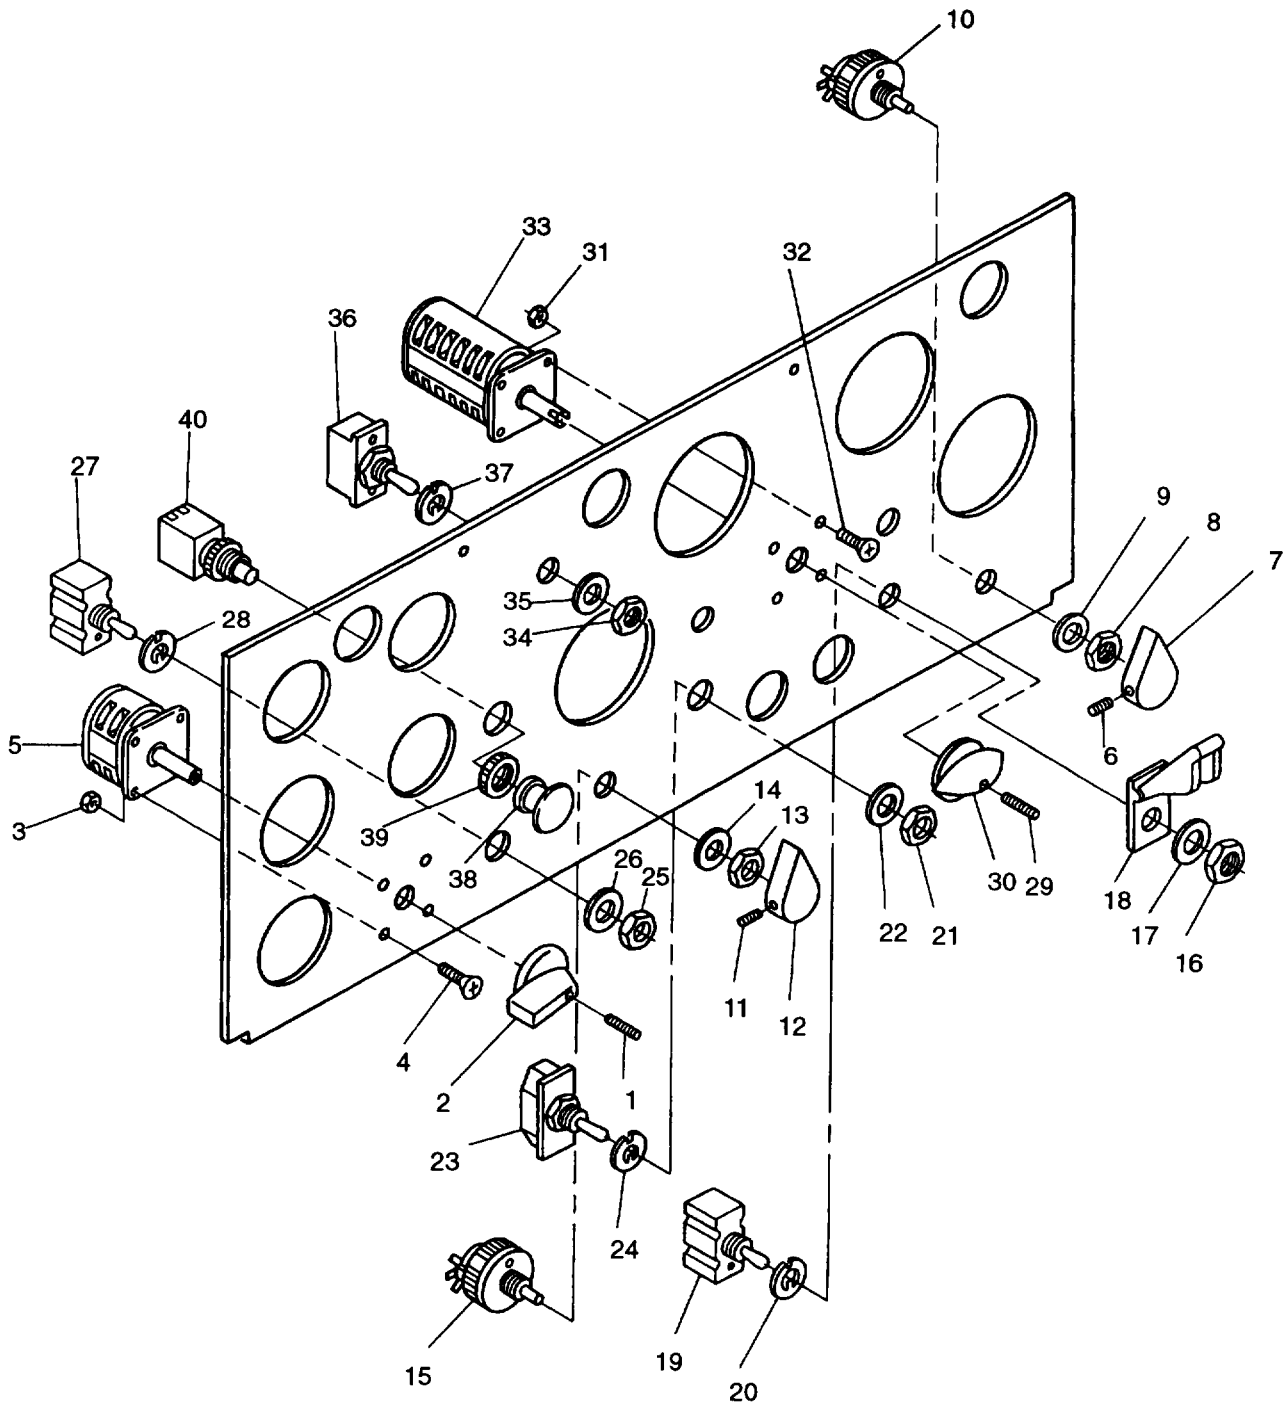

FIGURE 2-13. Control Panel Switches
- d. Tag and disconnect VOLTAGE adjust potentiometer (10, FIGURE 2-13) rheostat electrical leads using soldering gun. Remove shrinkable tubing
- e. Remove set screws (6) and knob (7).
- f. Remove nut (8) and washer (9).
- g. Remove VOLTAGE adjust potentiometer (10) from control panel.
- a. Insert VOLTAGE adjust potentiometer (10, FIGURE 2-13) into control panel.
- b. install washer (9) and nut (8).
- c. Install knob (7) and set screws (6).
- d. Tag and disconnect FREQUENCY adjust potentiometer (15, FIGURE 2-13) electrical leads using soldering gun. Remove shrinkable tubing.
- e. Remove set screws (11) and knob (12).
- f. Remove nut (13) and washer (14).
- g. Remove FREQUENCY adjust potentiometer (15) from control panel.
- b. Set multimeter for ohms and connect across outer terminals of potentiometer (15, FIGURE 2-13). Multimeter should indicate between 4500 and 5500 ohms resistance.
- a. Insert FREQUENCY adjust potentiometer (15, FIGURE 2-13) into control panel.
- b. Install washer (14) and nut (13).
- c. Install knob (12) and set screws (11).
- d. Tag and disconnect BATTLE SHORT switch (19, FIGURE 2-13) electrical leads.
- e. Remove nut (16), washer (17), and protective cover (18).
- f. Remove BATTLE SHORT switch (19) from control panel and tab washer (20) from switch stem.
- j. Connect electrical leads to switch (19) and remove tags.
- a. Install tab washer (20, FIGURE 2-13) and insert BATTLE SHORT switch (19) into control panel,
- b. Install protective cover (18), washer (17), and nut (16).
- d. Tag and disconnect AC CIRCUIT INTERRUPTER switch (23, FIGURE 2-13) electrical leads.
- e. Remove nut (21) and washer (22).
- f. Remove AC CIRCUIT INTERRUPTER switch (23) from control panel and tab washer (24) from switch stem.
- n. Connect electrical leads to switch (23) and remove tags.
- a. Install tab washer (24, FIGURE 2-13) and insert AC CIRCUIT INTERRUPTER switch (23) into control panel.
- b. Install washer (22) and nut (21).
- d. Tag and disconnect PARALLEL-UNIT switch (27, FIGURE 2-13) electrical leads.
- e. Remove nut (25) and washer (26).
- f. Remove PARALLEL-UNIT switch (27) from control panel and tab washer (28) from switch stem.